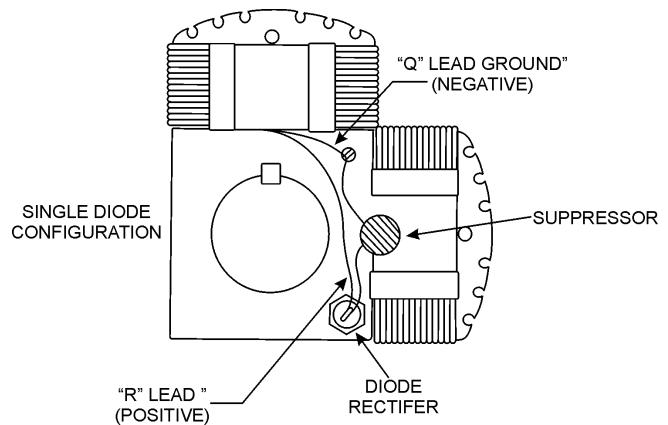

Figure 16. Flashing The Rotor Configuration
2. Connect the (+) lead of a 12 volt battery to the "R" connection (Figure 16).
1. Check the diode individually by removing the (+) **rotor lead stud** connection (Figure 16). The diode is good if the resistance reading is approximately mid -scale on the lowest ohm scale.